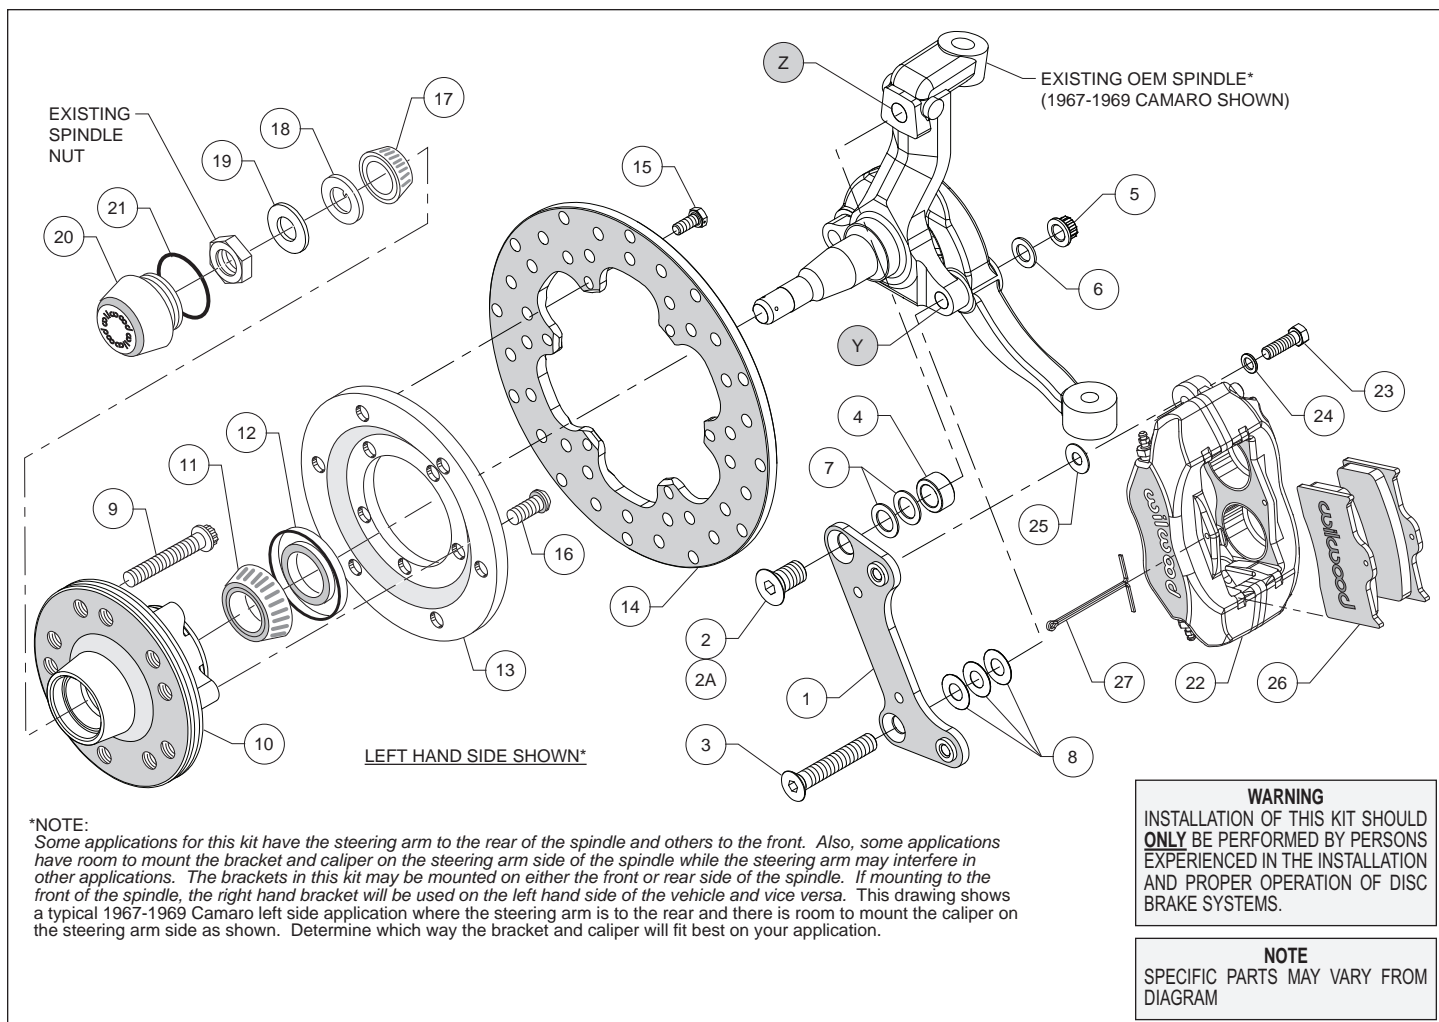
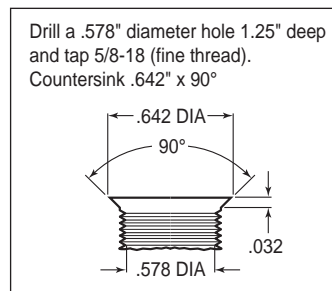
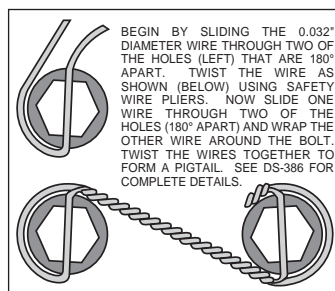
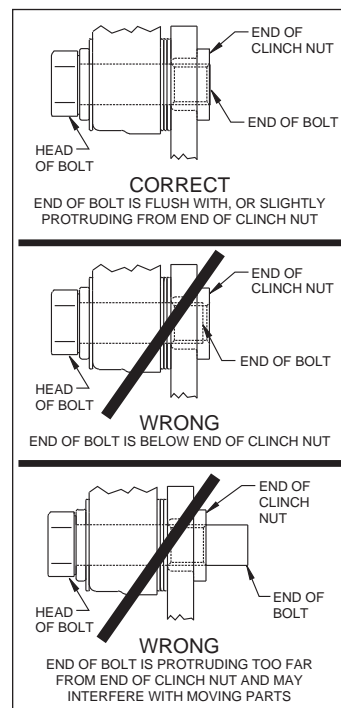

Figure 1. Typical Installation Configuration
Figure 3. Drill and Tap Detail
Figure 4. Safety Wire Diagram
Figure 5. Clinch Nut Engagement Diagram
**Assembly Instructions** (numbers in parenthesis refer to the parts list, on the preceding page and Figure 1): **CAUTION:** All mounting bolts must fully engage clinch nuts. Be sure to check that all bolts are either flush or protruding through flanged side of clinch nut after shimming, Figure 5.
•**NOTE:** Some applications for this kit have the steering arm to the rear of the spindle and others to the front. Also, some applications have room to mount the bracket and caliper on the steering arm side of the spindle while the steering arm may interfere in other applications. The brackets in this kit may be mounted on either the front or rear side of the spindle. If mounting to the front of the spindle, the right hand bracket will be used on the left hand side of the vehicle and vice versa. Figure 1 shows a typical 1967-1969 Camaro left side application where the steering arm is to the rear and there is room to mount the caliper on the steering arm side as shown. Determine which way the bracket and caliper will fit best on your application.
•**NOTE:** Some spindles in this year range may require the following modifications (reference Figure 1 and Figure 3): Top anchor pin hole (Z) must be drilled and tapped to the dimensions as outlined in Figure 3. The lower bolt hole (Y) in the spindle used to mount the new caliper bracket, and the mating steering arm hole, must be enlarged to .50\"
- Orient the rotor (14) and the rotor adapter (13) as shown in Figure 1 and Photo 3. Attach the rotor to the adapter using bolts (15). Using an alternating sequence, apply red *Loctite*® 271 to the threads, and torque to 25 ft-lbs. Safety wire bolts using standard 0.032 inch diameter stainless steel safety wire as shown in Figure 4. Refer to Wilwood's data sheet DS-386 (available at [www.wilwood.com/Pdf/DataSheets/ds386.pdf](http://www.wilwood.com/Pdf/DataSheets/ds386.pdf)) for complete safety wire installation instructions.
- Mount the adapter/rotor assembly (13 and 14) to the hub (10) using bolts (16), as shown in Figure 1 and Photo 4. Using an alternating sequence, apply red *Loctite*® 271 to the threads, and torque to 45 ft-lb.
- Disc Brake Spindle Application Only:** Follow the instructions below, but instead use bolt (2A), spacer (4), and two .050" thick shims (7) in the upper bolt hole location, Figure 1.
- Orient the caliper mounting bracket (1) as shown in Figure 1 and Photo 5, and install using bottom bolt (3), washer (6), and nut (5), Figure 1. Initially place three .032" thick shims (8) between the bracket and spindle. Install the upper bolt (2). Temporarily tighten bolts. **NOTE:** *The bracket must fit squarely against the mounting surfaces on the spindle.* Inspect for interference from casting irregularities, machining ridges, burrs, etc. Temporarily install the new hub and rotor assembly. Check that the bracket is aligned parallel to the rotor, Photo 6. If not, adjust by adding or subtracting shims (8) on the lower bolt between the bracket and spindle, Figure 1. Once the bracket alignment is correct, remove the upper bolt (2 or 2A), apply red *Loctite*® 271 to the bolt threads, and torque to 120 ft-lb. Torque the lower lock nut to 65 ft-lb.
- NOTE:** *Please reference the caution statement at the beginning of the assembly instructions.* Mount the caliper (22) onto the caliper mounting bracket (1) using bolts (23) and washers (24), as shown in Figure 1. Initially place one .035" thick shim (25) on each bolt between the caliper and the bracket, Photo 9. Temporarily tighten the mounting bolts and view the rotor (14)
through the top opening of the caliper. The rotor should be centered in the caliper, Photo 10. If not, adjust by adding or subtracting shims (25) between the bracket and the caliper. Always use the same amount of shims on each of the two mounting bolts. **NOTE:** *The end of each bolt must be flush with or slightly protruding from the head of the clinch nut, as shown in Figure 5.* If necessary place spare shims (25) between washer (24) and caliper mounting ear to achieve the proper clinch nut engagement. Once the caliper alignment and clinch nut engagement are correct, remove the bolts one at a time, apply red *Loctite®* 271 to bolt threads, and torque to 40 ft-lb. For an added measure of security, the bolts may be safety wired using standard 0.032 inch diameter stainless steel safety wire as shown in Figure 3. Refer to Wilwood's data sheet DS-386 (available at [www.wilwood.com/Pdf/DataSheets/ds386.pdf](http://www.wilwood.com/Pdf/DataSheets/ds386.pdf)) for complete safety wire installation instructions.